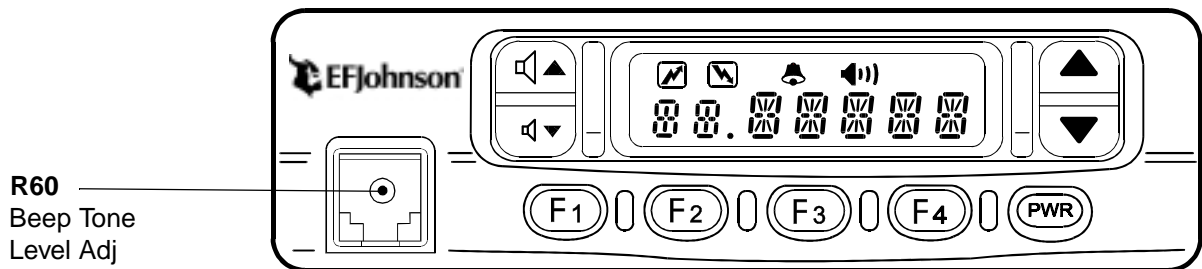

Figure 6-5 Beep Tone Level Adjustment
- Unplug any cable that may be plugged into the microphone jack and locate R60 inside this jack. (see Figure 6-5).
1. Unplug any cable that may be plugged into the microphone jack and locate R60 inside this jack. (see Figure 6-5).